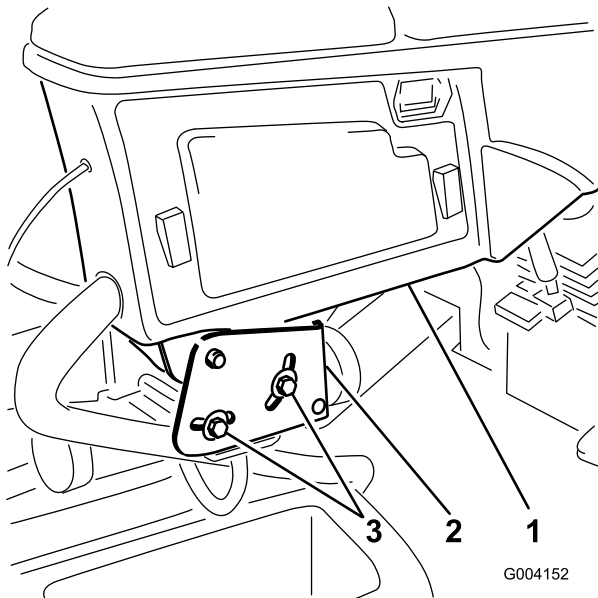

Figure 2
1. Loosen the 2 bolts securing the control arm to the retaining bracket (Figure 2).